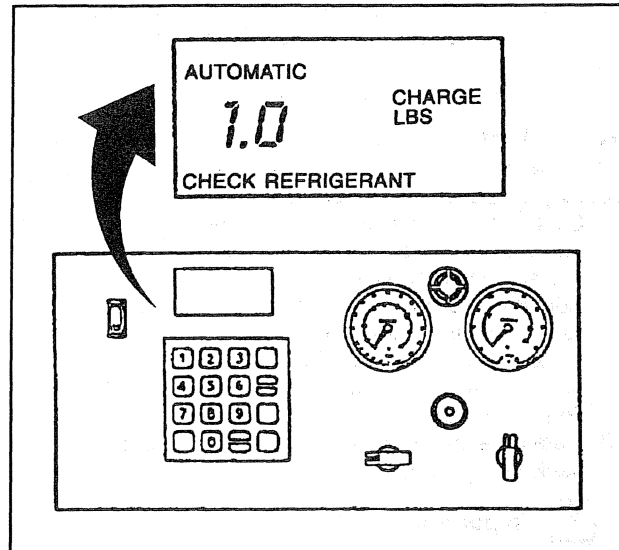

Figure 24—Unsuccessful Charging
1. If the transfer is too slow because the pressure in the unit's tank and the vehicle A/C system are about the same, the unit will emit an audible signal and the display shows the weight remaining for transfer (figure 24).